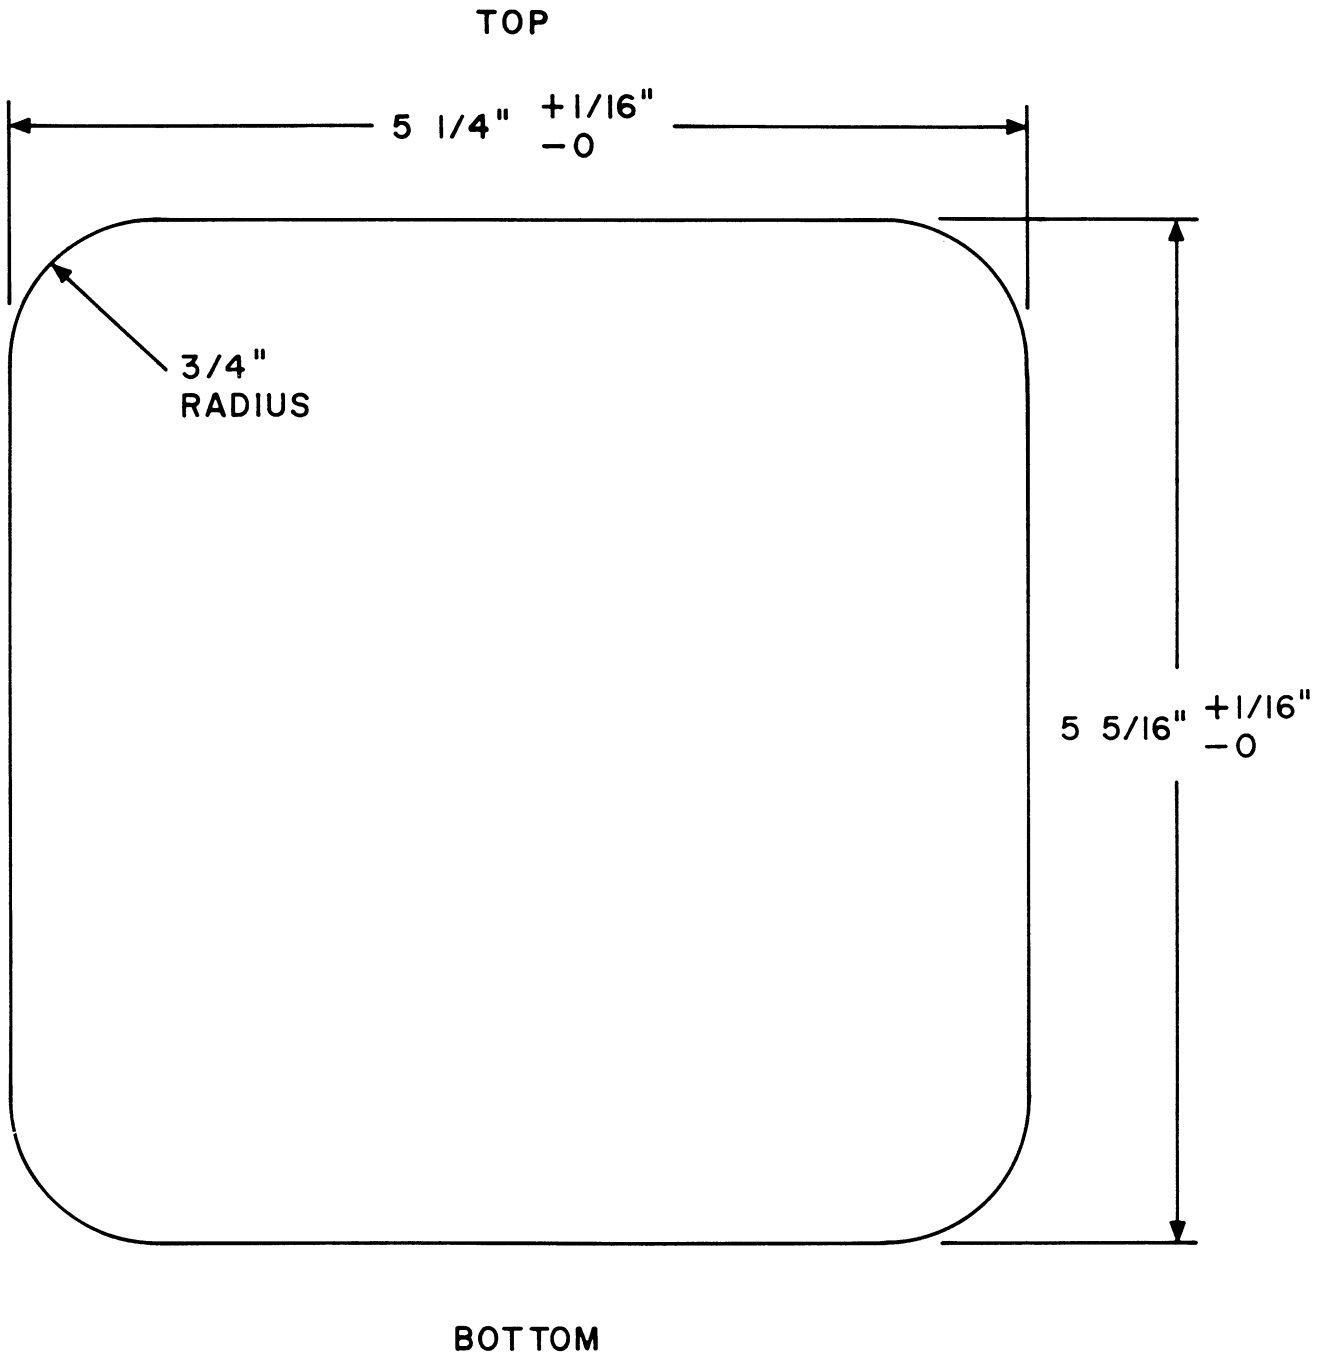
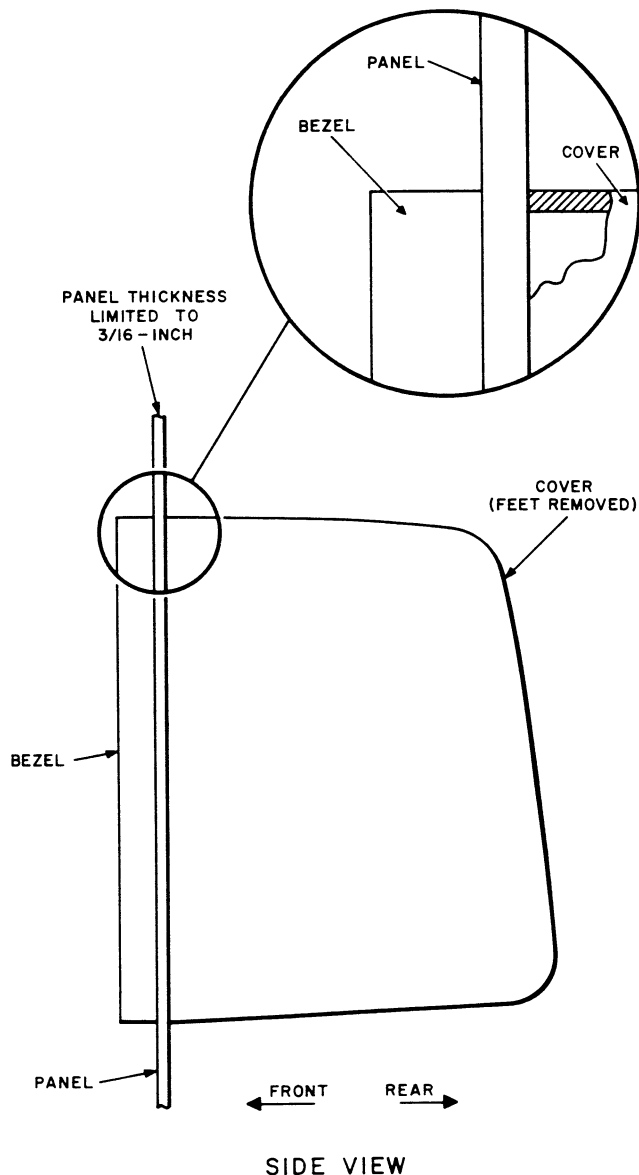

Fig. 6—Panel Cutout Template
Fig. 7—106-Type Loudspeaker Set, Panel Mounted
3.02 The loudspeaker may be panel mounted (Fig. 6). The cover is designed to hold the set in place, provided the panel is not over 3/16 inch thick. Loudspeaker with frame assembly is installed from front side of panel. Cover mounts on set at rear of panel. The edges of frame and cover act as a clamp on the panel when cover screws are tightened. If space is limited, the feet may be removed. Fig. 7 illustrates the area to be cut out of the panel prior to installation.
3.04 For panel installations, request customer to use the cutout template (Fig. 6) for cutting mounting hole in panel. After customer has cut hole in panel, install set as shown in Fig. 7.